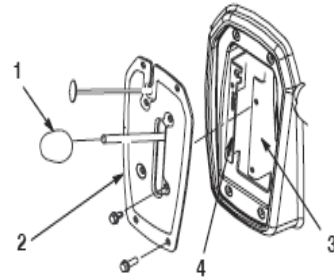

Figure 1
Step 2. Remove knob from the gear shift lever. (Figure 1.) (For Workman MDE skip to step 4)
Step 3. Remove 4 screws that secure shifter plate to shifter bracket. (Figure 1.)
Step 4. Remove 4 screws securing the shifter plate to seat base. Remove the shifter plate. (Figure 1.) On MDE, remove 4 screws securing receptacle face plate that will allow seat base to tip forward.